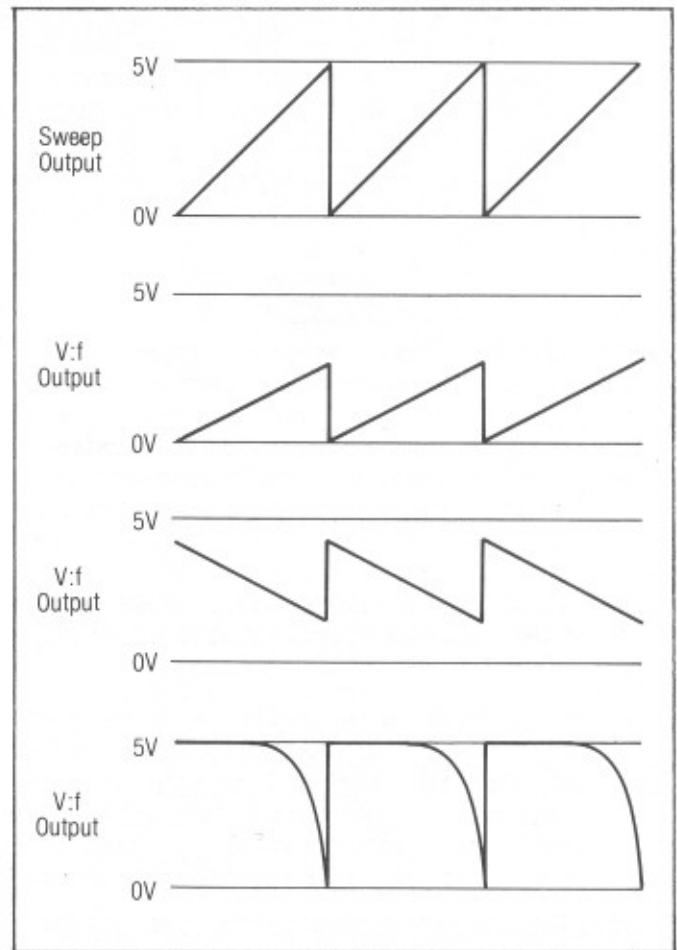

Fig. 5. Sweep and V:f outputs.
3. V:f OUTPUT (18) and SWEEP OUTPUT (17) both provide signals which may be used with an oscilloscope to determine the sweep speed at high sweep rates. Simply connect either of these outputs to a scope and measure the ramp interval on the screen. The SWEEP OUTPUT signal is always a 0 to +5 volt linear positive-going ramp, unaffected by changes in sweep range. The magnitude of the V:f OUTPUT ramp, however, is dependent on the frequencies swept, and gives direct visual information about sweep range and direction. See Fig. 5. In the figure the same SWEEP OUTPUT signal is present for any of the three V:f OUTPUT displays.